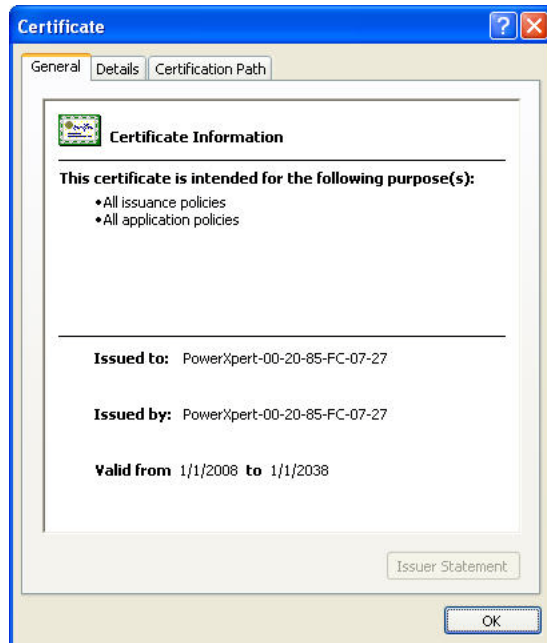

Figure 29. View Certificate Window
- e. Click **View** to open the Certificate window (see Figure 29).